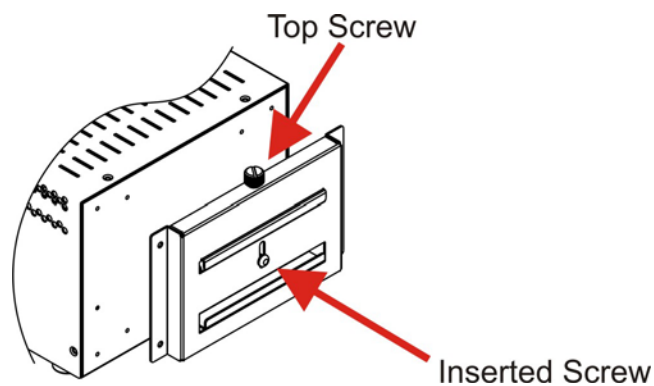

Figure 4-10: Screw Locations
Step 2: Make sure the inserted screw in the center of the bracket is at the lowest position of the elongated hole (**Figure 4-10**).